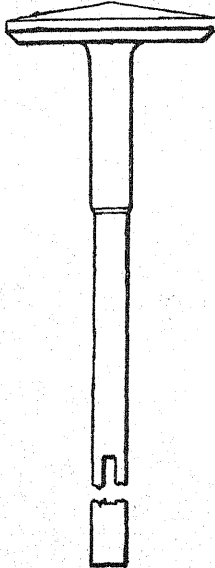
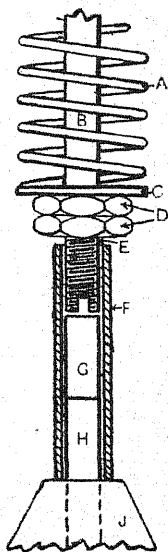

FIG. 1.—BROKEN EXHAUST STEM.
FIG. 2.—STEM REPAIRED.
**381** For instance, some time ago I had a car, the engine of which (a four-cylinder) gave a deal of trouble on account of the exhaust valves breaking. The exhaust valve spring was of that type which, instead of being fitted with a cap and cotter, was bent hook shape at the bottom end, the hook being slipped through a slot in the stem of the valve. The point of breakage was always at the slot in the valve stem (see fig. 1). On two occasions I had a spare valve with me, but on the one to which I wish to refer the spares had by some mischance been taken out of the car and not replaced. Well, the valve snapped, with its usual absence of warning, about three miles from a small town, whilst we were on tour to the North, and then—and not until then—I found that the spares had been left at home. I therefore ran into the town mentioned on three cylinders, and whilst having lunch attempted to think of some way out of the difficulty without waiting for the spares to be sent on, for I guessed that it would be impossible to obtain a new valve in the town. At last I hit upon, and carried out with the help of a local cycle repairer, the following repair: We first smoothed with a file the end of the valve stem B (fig. 2) where it had broken, and then cut a piece of steel G of the same diameter to a length which gave it a slight clearance between the valve in position
locknut D. The whole, when complete, was somewhat as shown in fig. 2. We found it worked perfectly, and that it was of no consequence whether the piece of tube lifted with the valve or not. If it lifted, the bottom end did not clear the tappet; if, on the other hand, it did not lift, the end of the valve stem did not rise above its top end. The time occupied on the makeshift was less than an hour, and although I had the spares sent on to me from home, the arrangement was so satisfactory that I found it unnecessary to fit a new valve until after my return.